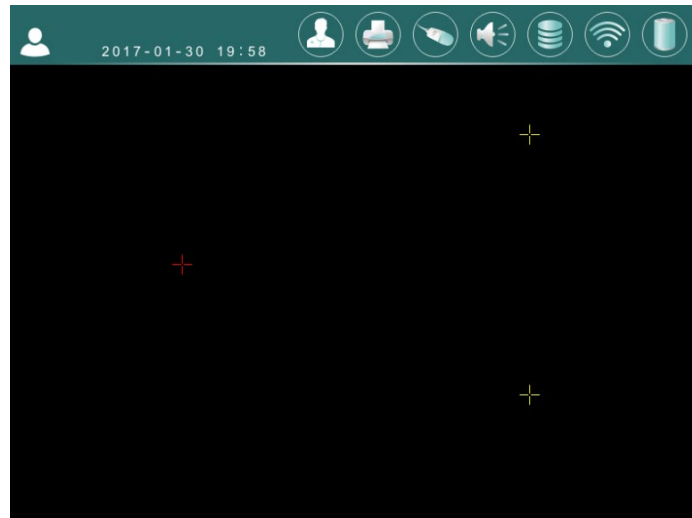

Figure 7-29 Touch Screen Calibration Interface
- b. Press  button or touch , enter the touch screen calibration interface as shown in Figure 7-29.